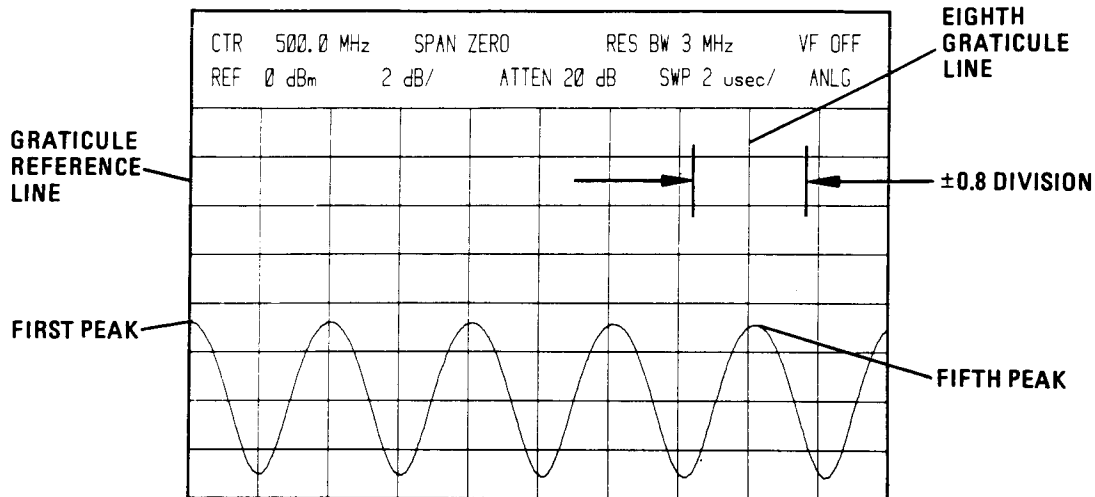

Figure 4-22. Sweep Time Accuracy, 2 μ SEC/DIV
9. Adjust TRIGGER LEVEL of analyzer to place a peak of sine wave on graticule reference line (left-most graticule line). Fifth peak from reference should be within ± 0.8 division of eighth graticule line. (See Figure 4-22.)